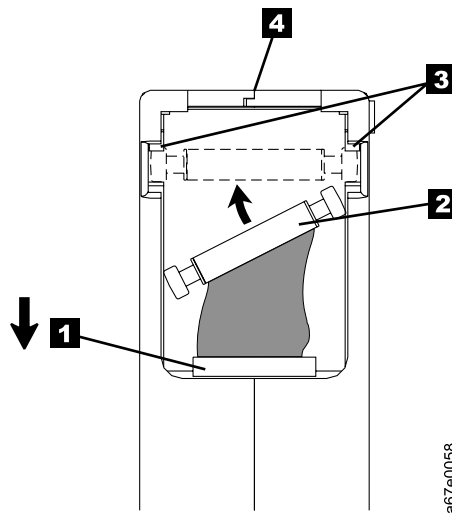

Figure 17. Placing the dislodged leader pin into the correct position. The cartridge door is open to show the leader pin.
- Inspect the rear of the cartridge (the part that you load first into the tape load compartment) and ensure that there are no gaps in the seam of the cartridge case (see **4** in Figure 17 on page 56). If there are gaps in the seam (see Figure 15 on page 53), the leader pin may be dislodged. Go to “Repositioning or Reattaching a Leader Pin” on page 55.
1. Slide open the cartridge door ( **1** in Figure 17) and locate the leader pin **2** (you may need to shake the cartridge gently to roll the pin toward the door).